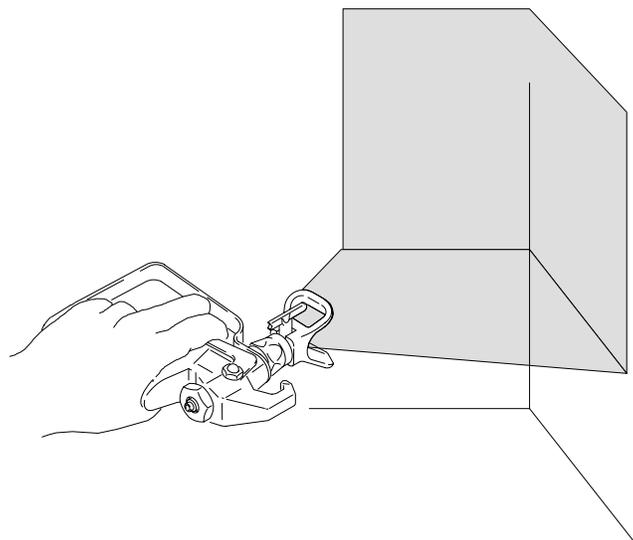

Fig. 12
**For interior corners**, such as on a bookcase or inside a cabinet, aim the gun toward the center of the corner to spray. By dividing the spray pattern this way, the edges on both sides are sprayed evenly. See Fig. 12.